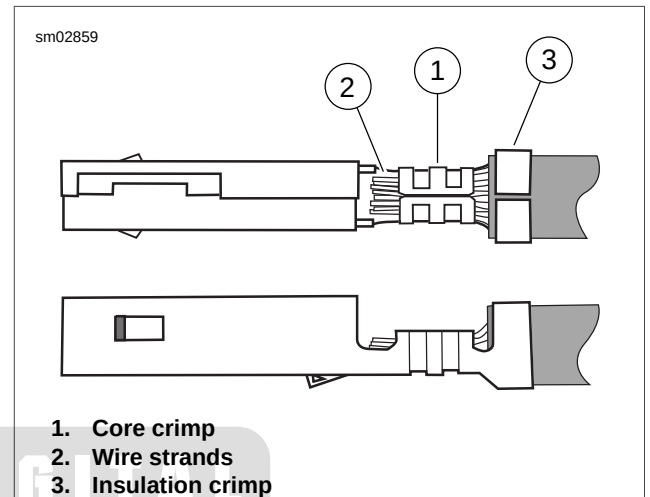

Figure A-35. Terminal Crimp
- a. See Figure A-35. The core tails should be creased into the wire strands at the core crimp (1).
- b. Strands (2) of wire should be visible beyond the core crimp but not forward into the terminal shell.
- c. The insulation tails should be folded into the insulation (3) without piercing or cutting the insulation.